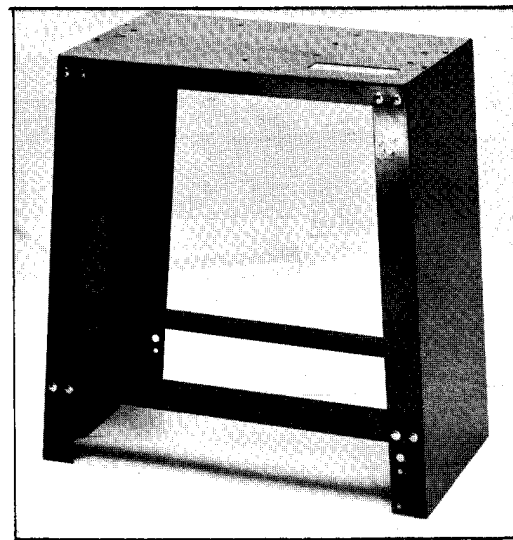

Fig. 13
3. Fig. 13, illustrates the 50-510 Stand assembled.